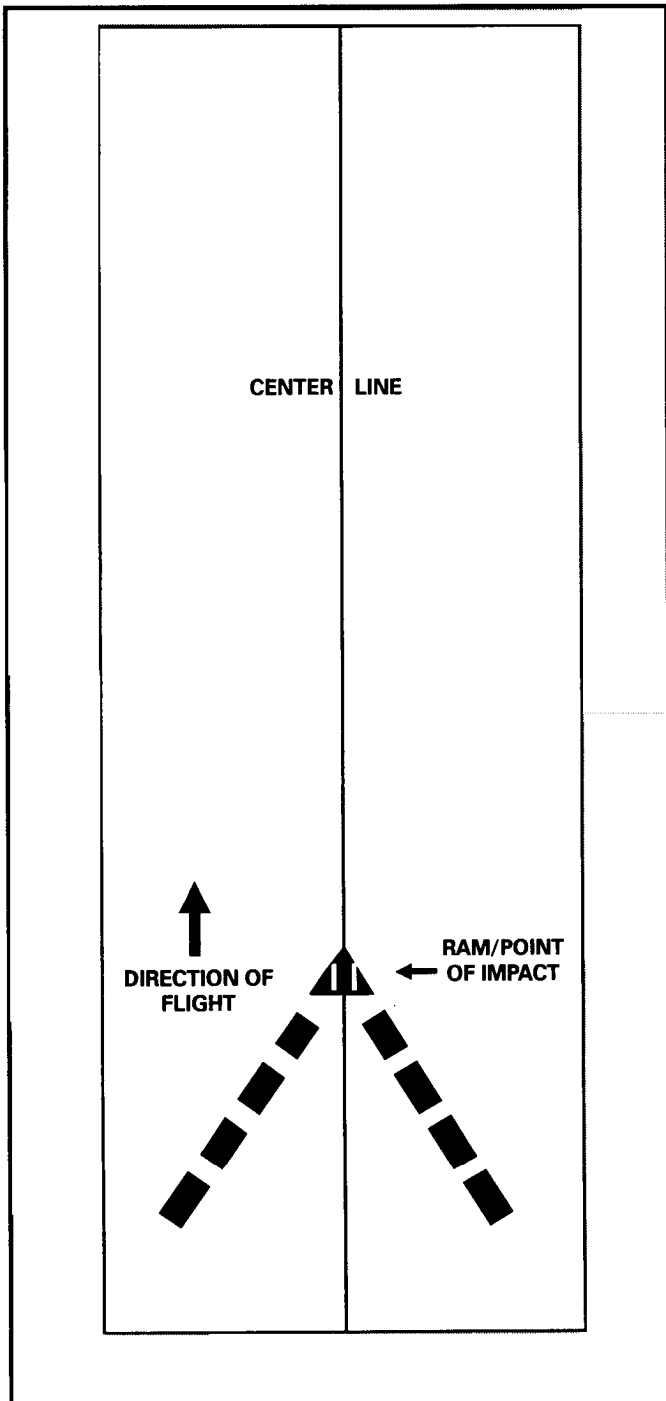

Figure 22-1. Day CARP drop zone markings.
a. **CARP Points of Impact** (Figures 22-1 and 22-2). The PIs for CARP operations are as follows:
- (1) **Personnel.** For personnel, drops at the PI are 300 yards (day) and 350 yards (night) from the leading edge.
- (2) **CDS.** For CDS bundles, drops at the PI are 200 yards (day) and 250 yards (night) from the leading edge.
- (3) **HE.** For heavy equipment, drops at the PI are 500 yards (day) and 550 yards (night) from the leading edge.